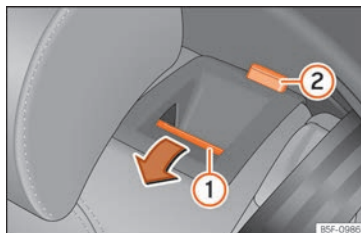

Fig. 134 Rear seat: folding the backrest.
- Press the unlock button » **Fig. 134** (1) forwards and at the same time fold the backrest down. The rear seat backrest is not engaged when the red marking of the button (2) is visible.
The rear seat backrest is not engaged when the red marking of the button » Fig. 134 ② is visible.